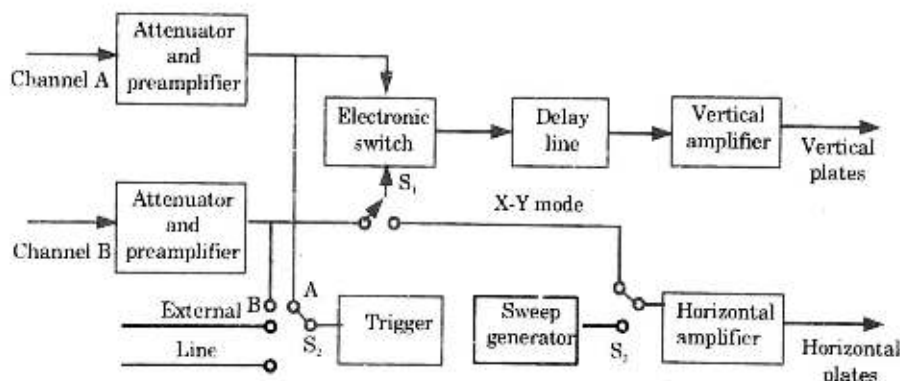

Fig. 4.5.1.
6. The alternate mode is shown in Fig. 4.5.1.